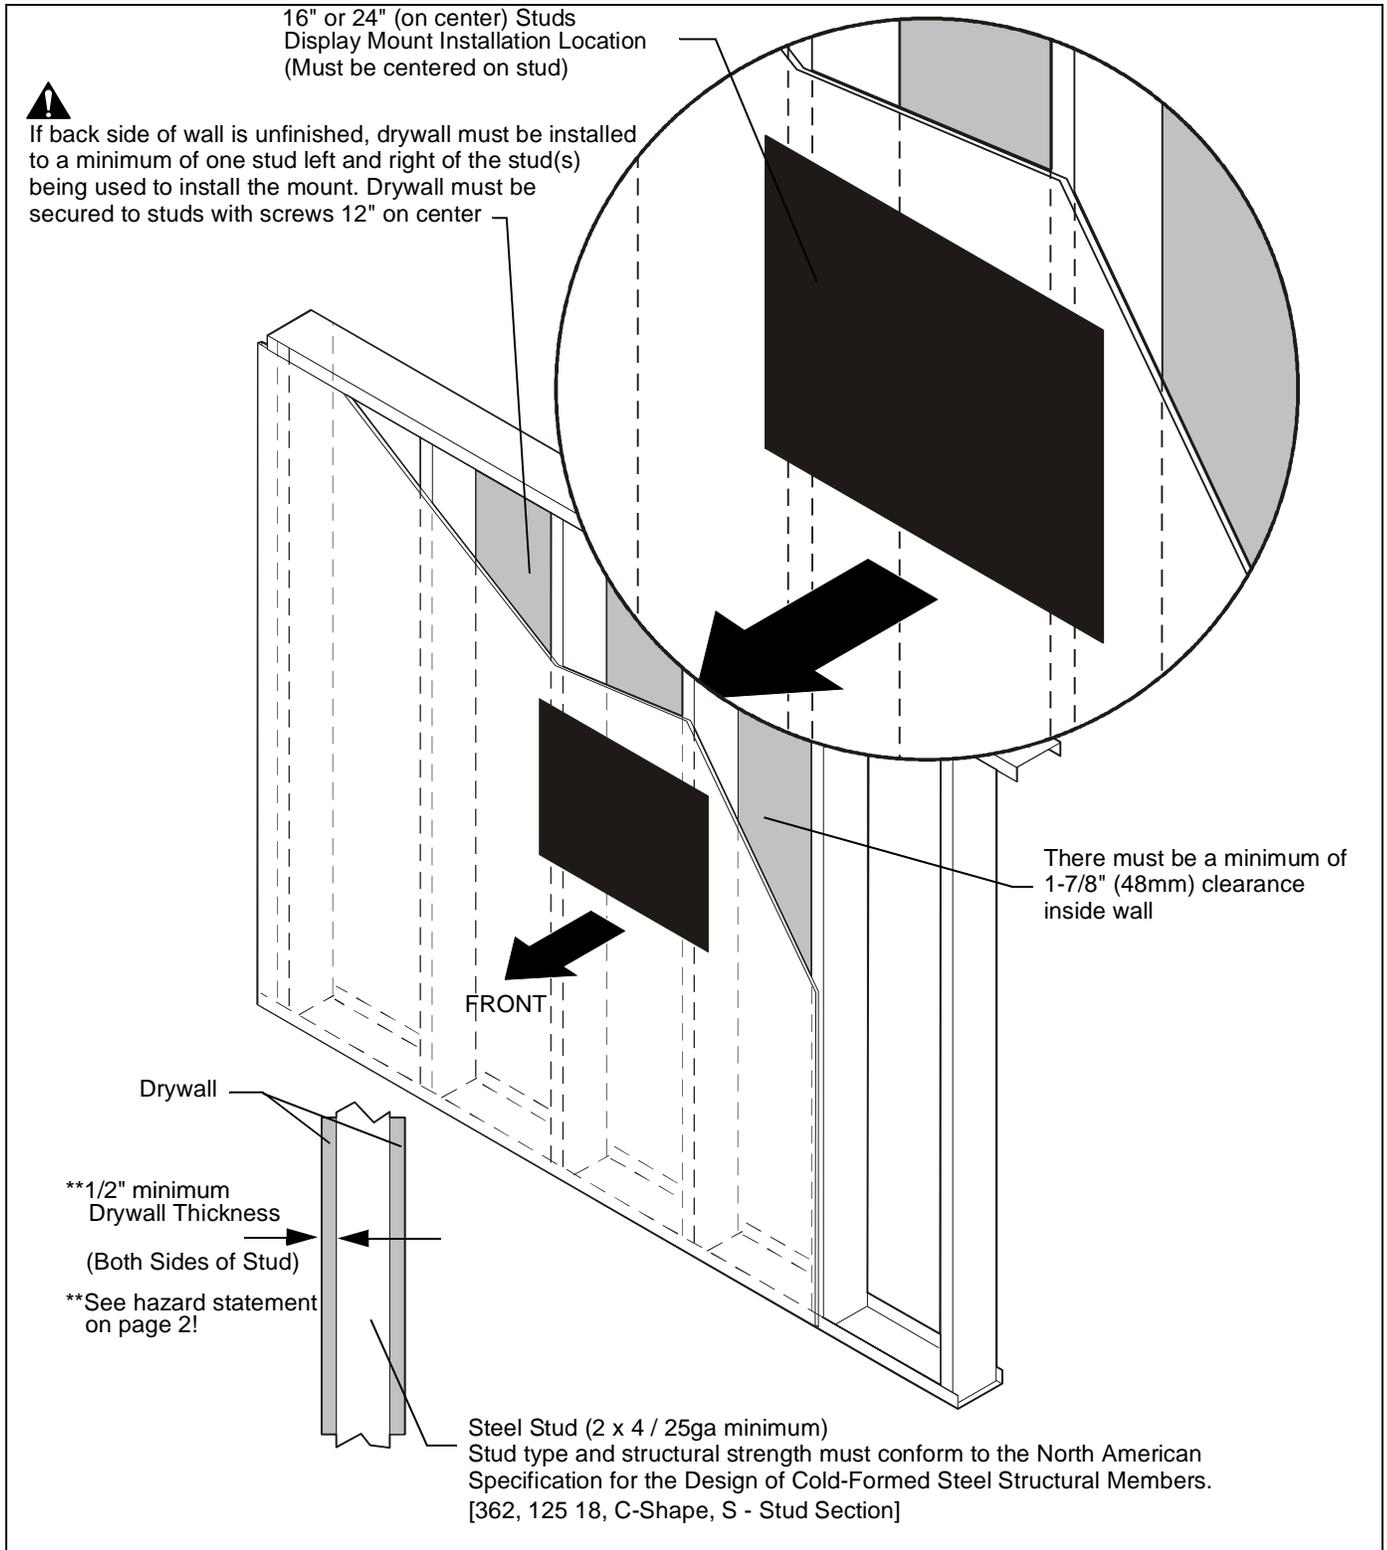

Figure 1
WARNING: IMPROPER INSTALLATION CAN LEAD TO EQUIPMENT FALLING CAUSING SERIOUS PERSONAL INJURY OR DAMAGE TO EQUIPMENT! The figure below identifies the minimum requirements for installation of display mounts onto a steel stud structure. If the structure or its components do not meet these requirements contact the mount manufacturer for specific instructions before attempting installation. It should also be noted that no other equipment should be mounted to the same stud. (See Figure 1)
2. Drill one 7/32" (5.5mm) pilot hole at both marks made in Step 1. (See Figure 1)